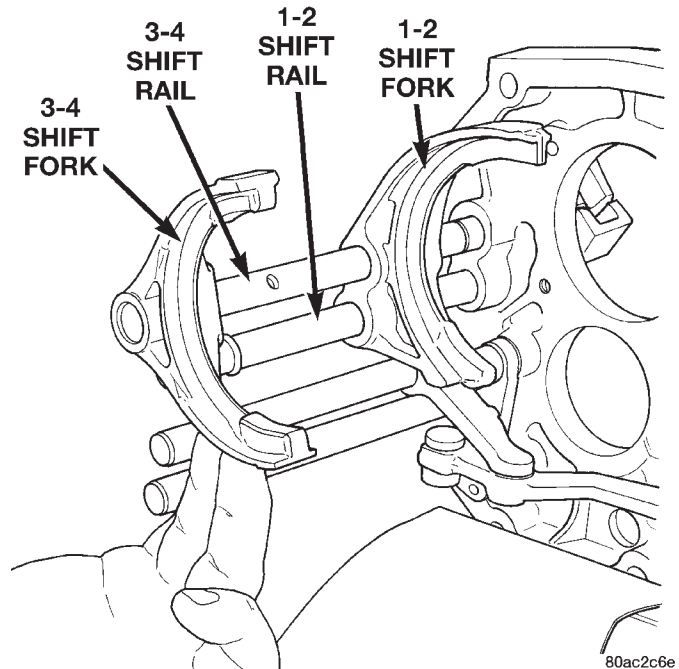

Fig. 64 Remove 3-4 Shift Fork
(18) Remove the 3-4 shift fork from the 3-4 shift rail (Fig. 64).
(19) Remove the snap-ring from near the end of the 1-2 shift rail to allow the removal of the 1-2 shift fork.